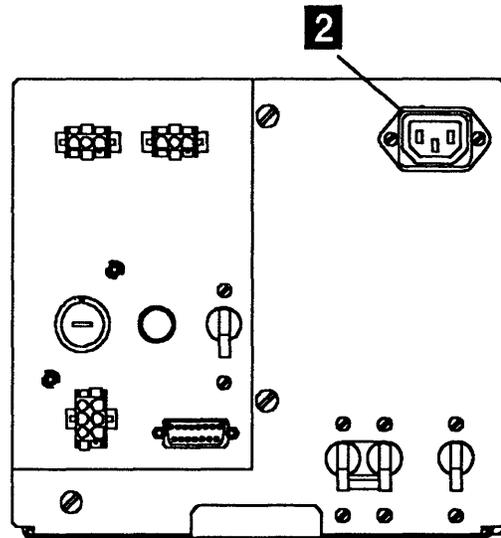
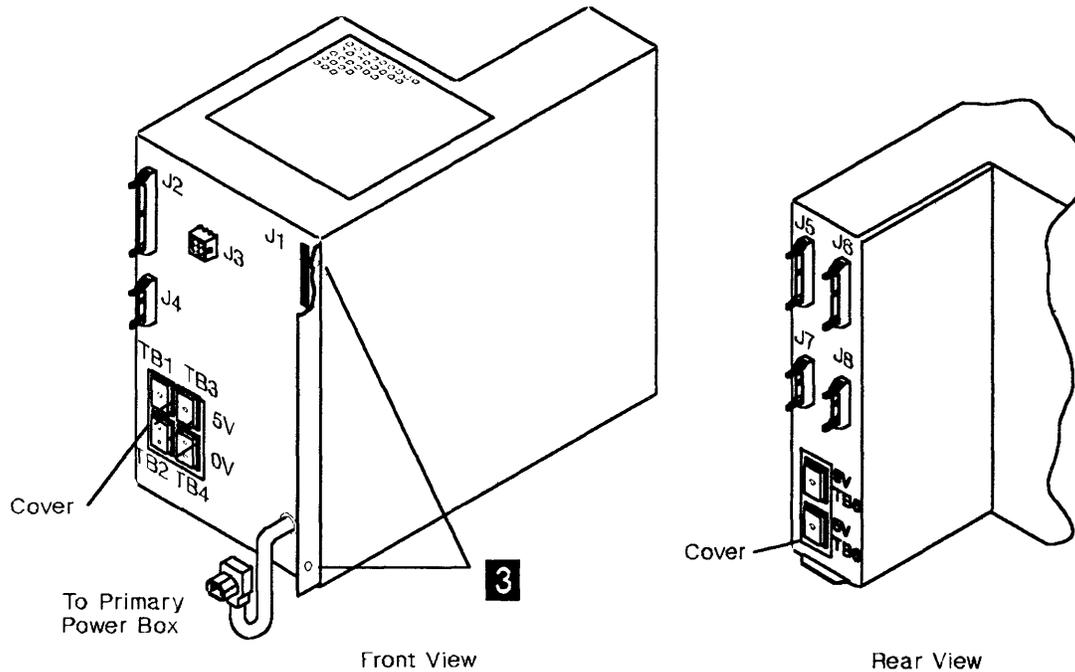

Figure 4-84. Primary Power Box
Figure 4-85. Power Supply 1
Refer to Figure 4-85 and to Figure 4-84 on page 4-61 and do the following:
4. Re-install the cover which protects TB1 to TB4 with 2 screws. Refer to Figure 4-85.
5. Re-install the cover which protects TB5 and TB6 with 2 screws. Refer to Figure 4-85.